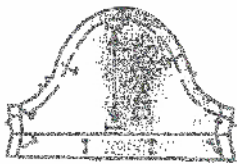

Figure 10
3. Pins should be perpendicular to the stitching lines and the cutting line. (Figure 10)